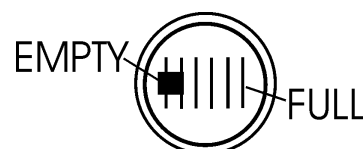

Figure 16. Fuel Gauge
3. Read the fuel gauge located on top of the fuel tank (Figure 16) to determine if the fuel level is low. If fuel is low, replenish with clean unleaded fuel.